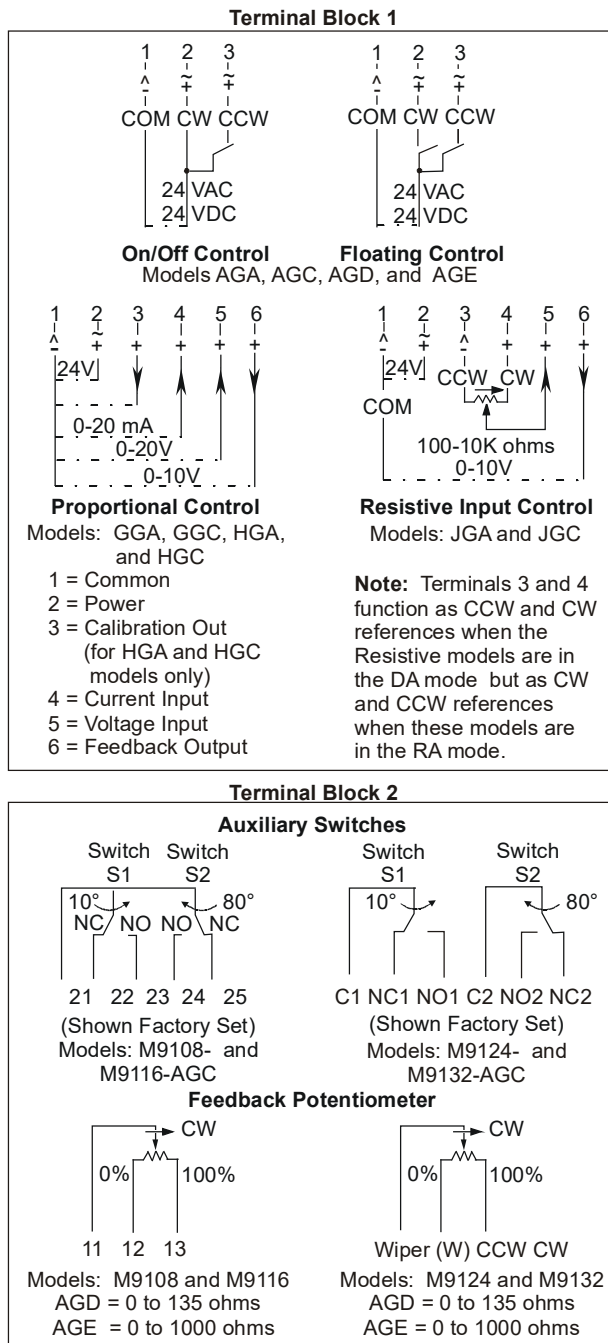

Figure 5: Wiring Diagrams for M91xx Models
Refer to Figure 5 for the applicable M91xx actuator.
4. Insert the cable wires through the plastic plug or conduit fitting, and connect to the terminal block using the applicable wiring diagrams in Figure 5.
To set one of these models for RA operation, reverse the control wiring connections at Terminal 2 and Terminal 3. (See Terminal Block 1 in Figure 5.)
Note: The normally closed contact closes, and the normally open contact opens. (See Auxiliary Switches in Terminal Block 2 of Figure 5.)